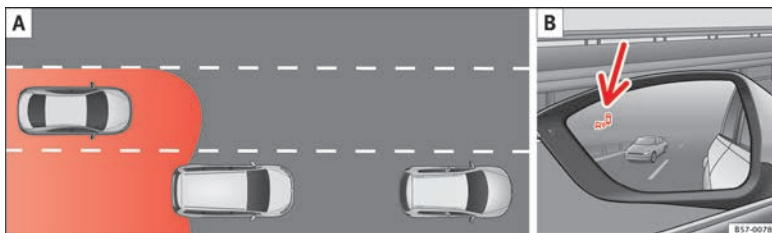

Fig. 203 Schematic diagram: **A** Passing situation with traffic behind the vehicle. **B** Indication from the blind spot detector in the left-hand external mirror.
the outside»» **Fig. 202**. The sensors monitor both the blind spot and traffic behind the vehicle»» **Fig. 203**,»» **Fig. 204**. The range to the sides of the vehicle is a bit larger than the width of a lane.
In the following situations, an indication will be displayed in the external mirror»» **Fig. 203 B** (arrow) or»» **Fig. 204 B** (arrow):
- When being overtaken by another vehicle»» **Fig. 203 A**.